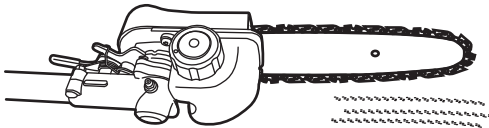

Fig. 9c
b). Start the engine; keep it running at medium power and check if the chain oil is delivered as shown in the figure. (See Fig. 9c)